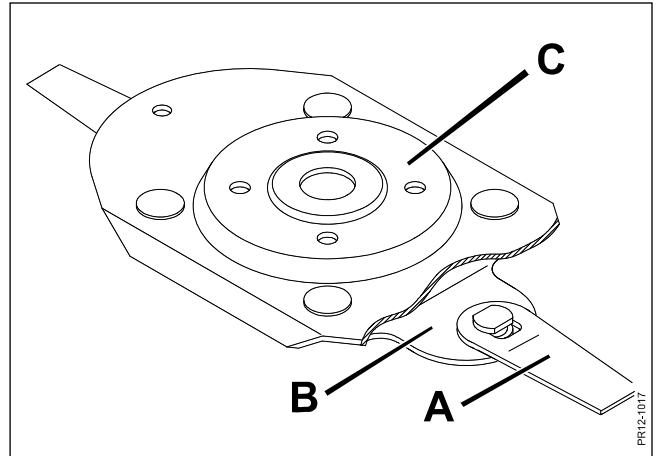

Fig. 5-16
**Fig. 5-16** The system is called QS, (Quick and Safe), which indicates the quick mounting/change of blades and the high safety as blades **A** cannot unintentionally be released from the blade holder **B**, which is bolted on the disc **C**.